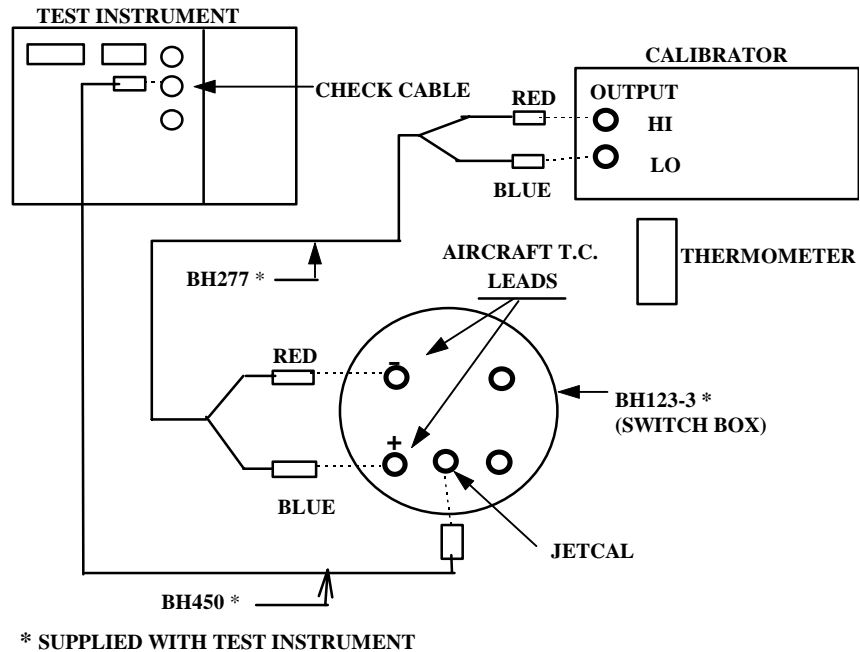

Figure 2. Temperature indicator check.
(1) Connect equipment as shown in figure 2.
(4) Refer to table 3 and adjust calibrator for an mV dc output equal to millivolt value corresponding to ambient temperature recorded in (3) above.
(5) If **TEMP °C** indicator does not indicate **0**, perform **b** (1) through (4) below.
(6) Reverse leads at calibrator OUTPUT (BLUE to HI and RED to LO) (fig. 2).
(7) Adjust calibrator for an 8.13 mV dc output, less millivolt value equivalent to ambient temperature obtained in table 3.
(8) If **TEMP °C** indicator does not indicate between 198 and 202, perform **b** (5) through (7) below.
(9) Repeat (7) above for calibrator outputs, less ambient temperature equivalent in millivolts, listed in table 4. If out-of-tolerance condition exists, perform **b** (5) through (7) below.